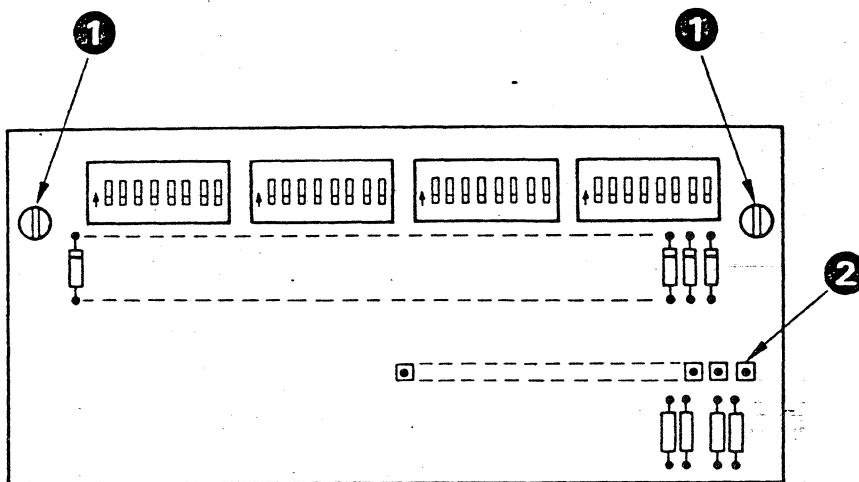

Figure 4-4. Setup Switch Assembly
2. Remove two screws, one at each end (1) of the switch assembly (see Figure 4-4).
3. Lift the switch assembly from the Keyboard assembly pins, which protrude into the switch-assembly connectors (2) from the underside.